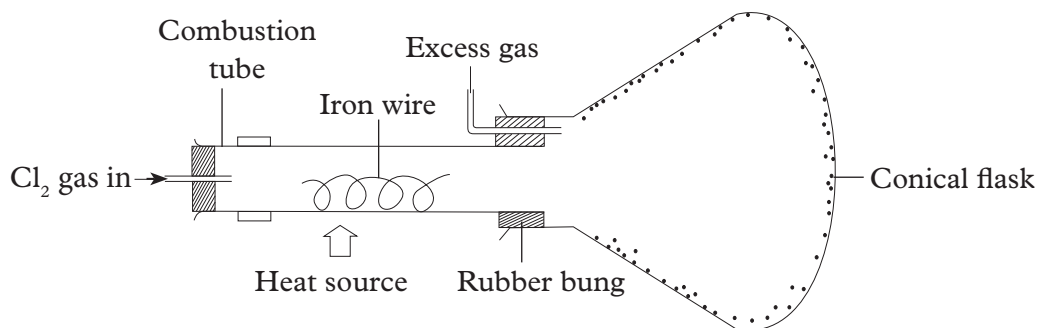

Fig 4.6: Reaction of chlorine with iron
4. Why is it possible to collect the product from the combustion tube into the conical flask as shown in fig 4.6?